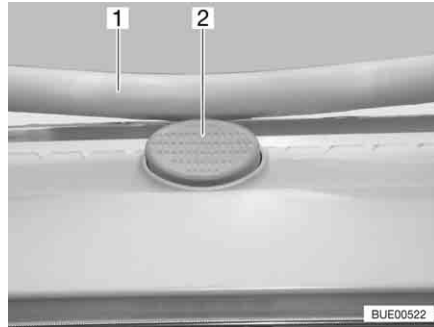

Fig. 87 Safety knob on the Heki skylight
- Press the safety knob (Fig. 87,2) and pull the bar (Fig. 87,1) down with both hands.
- Push the bar upwards with both hands until it is above the safety knob (Fig. 87,2).